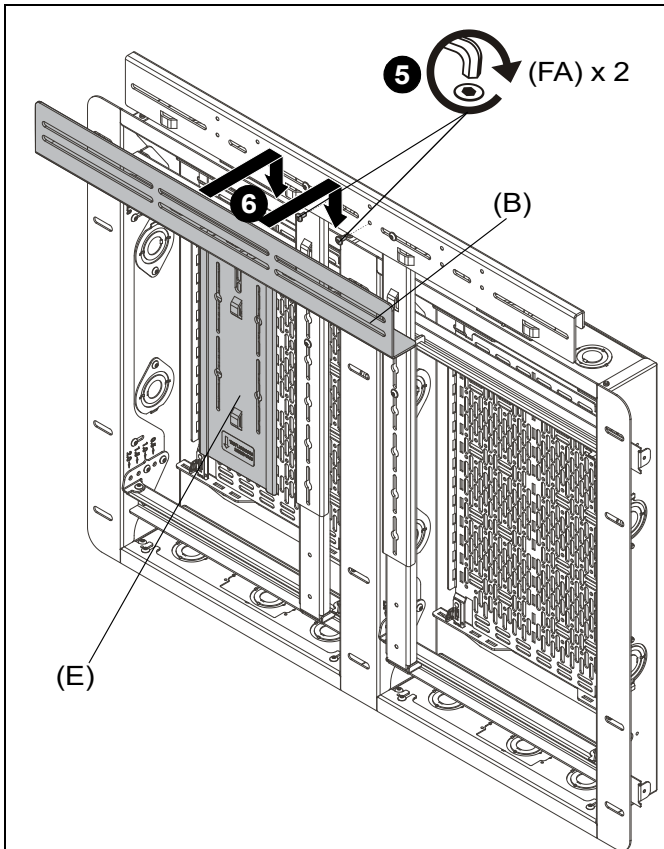

Figure 6
- Loosely install two #10-24 x 3/8" button head cap screws (FA) into lower holes in center of horizontal adjustment bracket (B). (See Figure 6)
- Hang micro height adjustment bracket (E) onto two partially installed screws (FA). (See Figure 6)